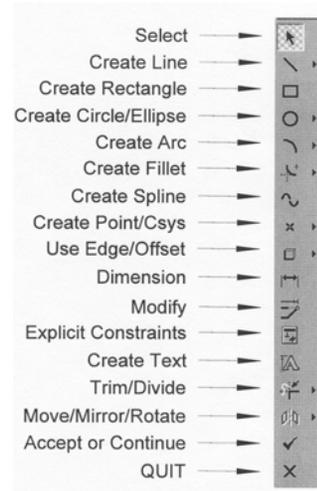

Figure 1.6 The Sketcher toolbar
- Choose Create Rectangle icon on Sketcher Toolbar (Figure 1.6) to sketch a rectangle for extrusion in plane FRONT by clicking on the bottom-right and top-left corners of the rectangle in the drawing windows. Click middle mouse to
- Modify the dimensions to 4 x 8 by double clicking on the dimensions on the rectangle. To end sketching choose Accept icon on Sketcher Toolbar (Figure 1.6) and click OK in the Section dialog.